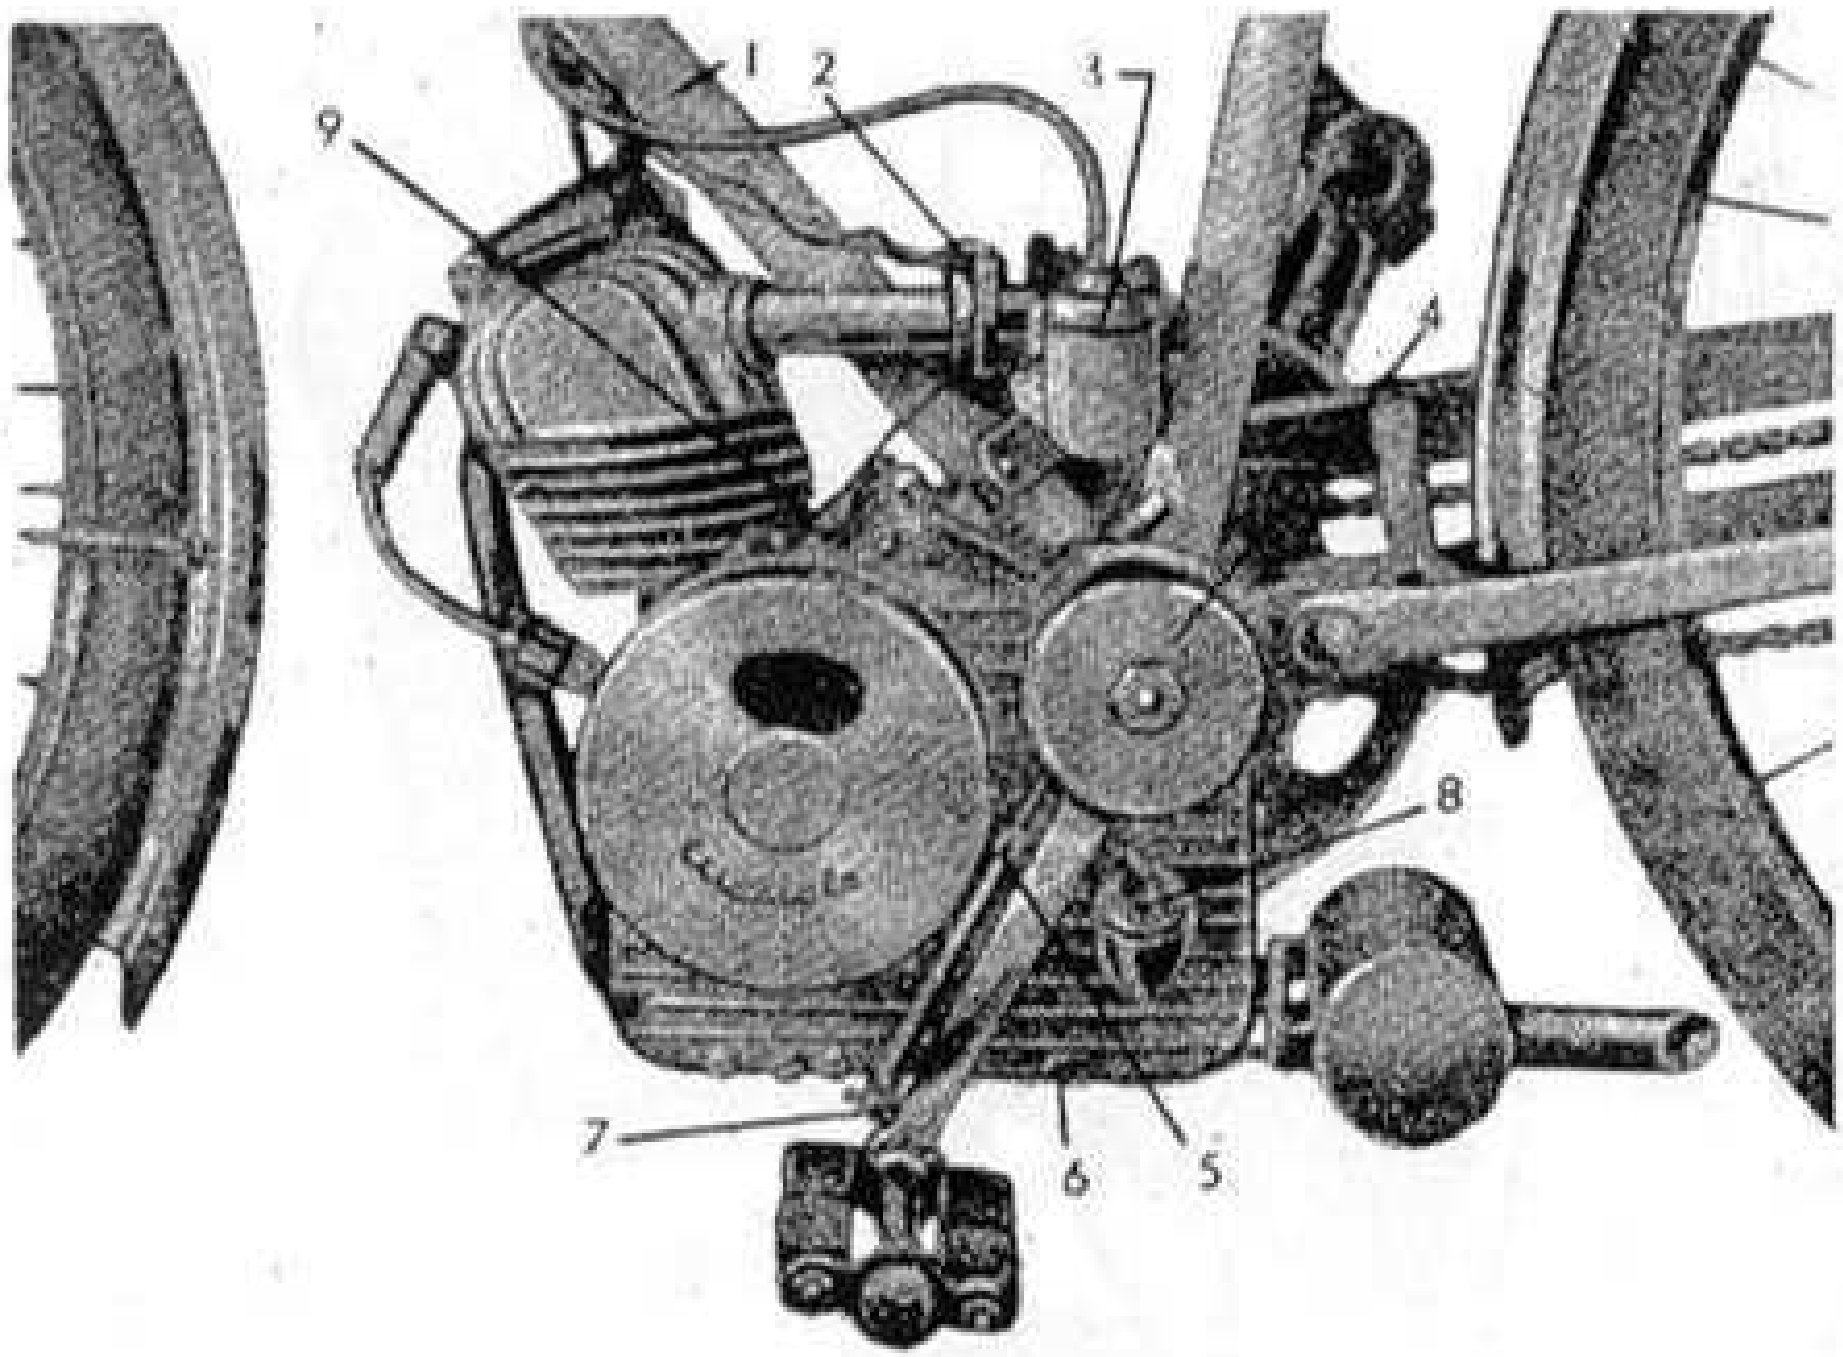

Fig. 1
Place unit in position so that semi-cylindrical grooving (14) encircles lower part of pedal box (4) and cradle (13) may adhere to front lower part of frame's front diagonal tube. Grooved section (14) will be linked to pedal box by inserting the antivibration packing already supplied with it, as well as packing fitted to bracket for cradle (13) by means of the two clamps (16) which will fit around pedal box and are kept in position by the journal fixing unit. Strap (17) will be fixed on top against cradle (13) thus holding firmly Tube 1 (Fig. 1). Care must be taken when tightening clamps (the necessary spanners are supplied with unit) that top fins of cylinder do not touch or come too close to Tube 1 (a clearance of at least 2mm is indispensable). If necessary add some metal packing between cradle (14) and Tube 1. Tighten slightly first both clamps (16), then also slightly, strap (17), after which tighten hard both clamps and strap, driving in right and left nuts. With the tightening of these four stud bolts engine is definitely fitted.
In order to synchronize gear change, loosen entirely clutch regulating screws (Fig. 1). Assemble gear change lever (24) on clutch lever, then fit washer and split pin. Place gear change into neutral position with left pedal down. Slip Bowden wire through special eyelet of clutch lever and pull until both gear change lever thrusts are at an approximate distance of 2mm from preselector cam (25).
The engine is delivered dry; before starting introduce through tap (8) Fig. 1. located on left side of crank case, approx. 400 grs. of thick oil if in summer and semi-dense oil in winter.
Drainage is effected by unscrewing plug 6 (Fig. 1) while engine is still slightly warm.
Gear change operation. The preceding considerations clearly illustrate the automatic operation of gear change; the same clutch lever 7 (fig. 1) and the same movement which disconnects engine from transmission, effects also simultaneously and automatically, gear change without requiring a special control lever.